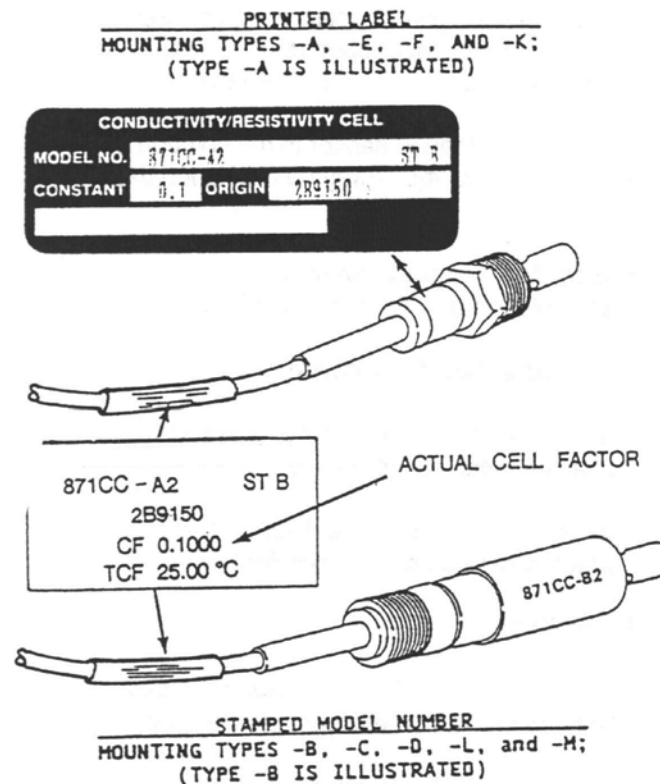

Figure 25. Sensor Identification
871CC Sensors with 0.1 cm^{-1} nominal cell constants are stamped with a 4-digit number (e.g., 1001) which is the cell factor (CF) of that particular cell when tested in our factory. These cells are also stamped with a temperature value (tCF) (e.g., 24.97°C) which is the temperature where that particular transducer read its theoretical resistance value. See Figure 25. When the sensor is connected directly to the Analyzer, these factors may be input directly into the 873CC to correct for these offsets. Alternately, the procedures that follow may be used to **determine** these offset values, and must be used when additional cable lengths are used with the sensors.